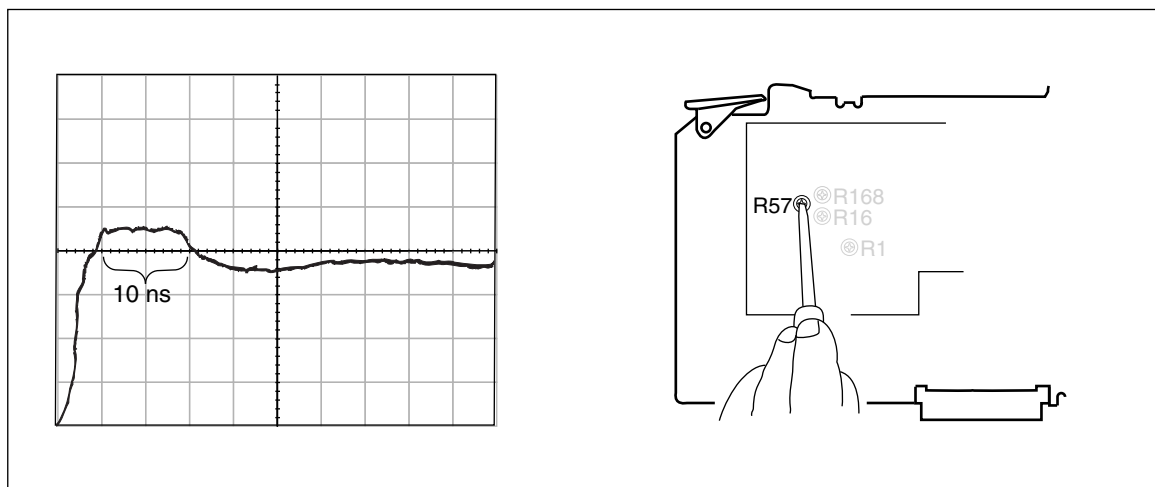

Figure 6-17. Adjusting Base of Peak with R57
5. Slowly adjust R57. It will affect the first 50 ns of the wave form. Adjust R57 so the rising edge falls back and crosses the horizontal center line one division before the vertical center. Refer to Figure 6-17. The base of the aberration should be 10 ns apart.
8. Return to 5 ns/div and verify that the pattern shown in Figure 6-17 still exists. Repeat the adjustment in step 5 if necessary.